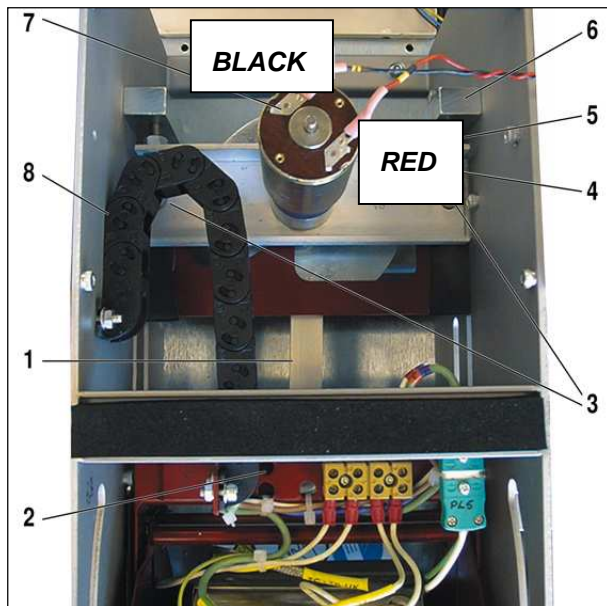

Fig. 4-14: Motor Assembly (viewed from front)
With reference to Figure 4.13. And Figure 4.14.
6. Remove the forward motor crank pivot pin retaining screw. Gain access through the hole shown in (Figure 4.14. (2)).
5. **Fit the forward motor crank pivot pin retaining screw to the heater chamber. Gain access through the hole shown in (Figure 4.14. (2)). Use Loctite 222 on the securing screw.**